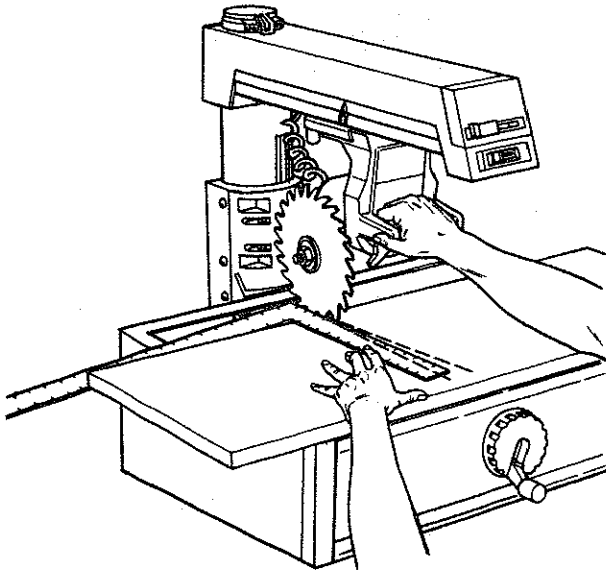

Fig. 54
8. Lay a framing square on the *front table* with the long edge along the back of the *table* and the short edge alongside the *blade* (Figure 54).
9. Move the framing square toward the *blade* until a tooth of the *blade* just touches the edge of the square (Figure 54).
If the marked tooth moves away from the square or tries to "walk" on top of it, go to step 12 (Figure 54).